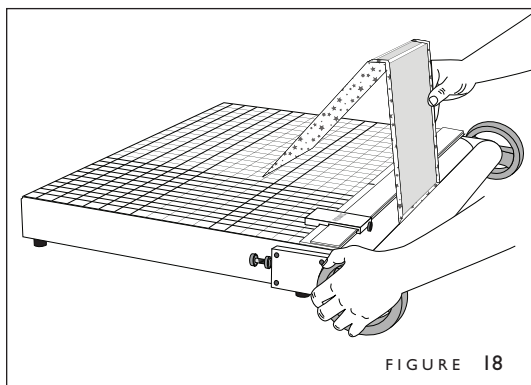

FIGURE 18
14. Place the short edge of the cover between the Rollers and rotate the Turn Wheel a half-turn and back to feed the folded edge in and out of the rollers (Figure 18).